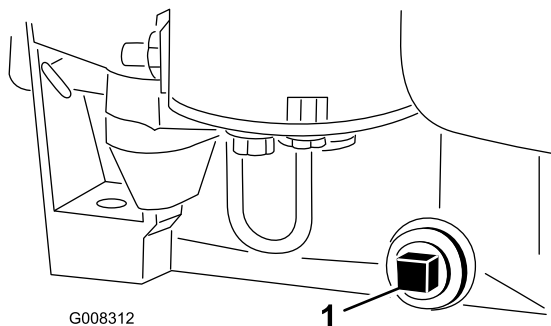

Figure 24
9. Remove the oil drain plug to allow oil to drain (Figure 24).